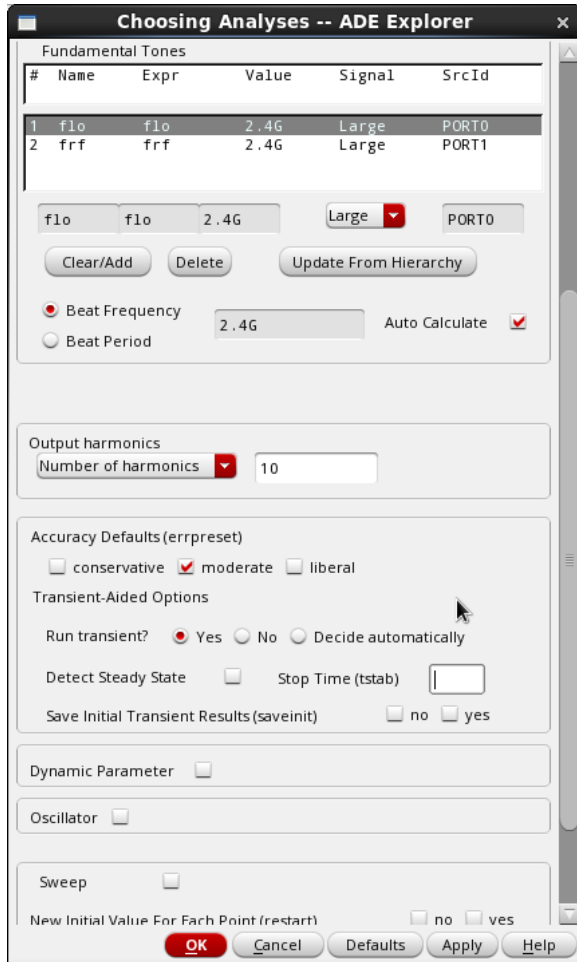

Fig. 19
- Enable PSS analysis and configure it as shown in Fig. 19.